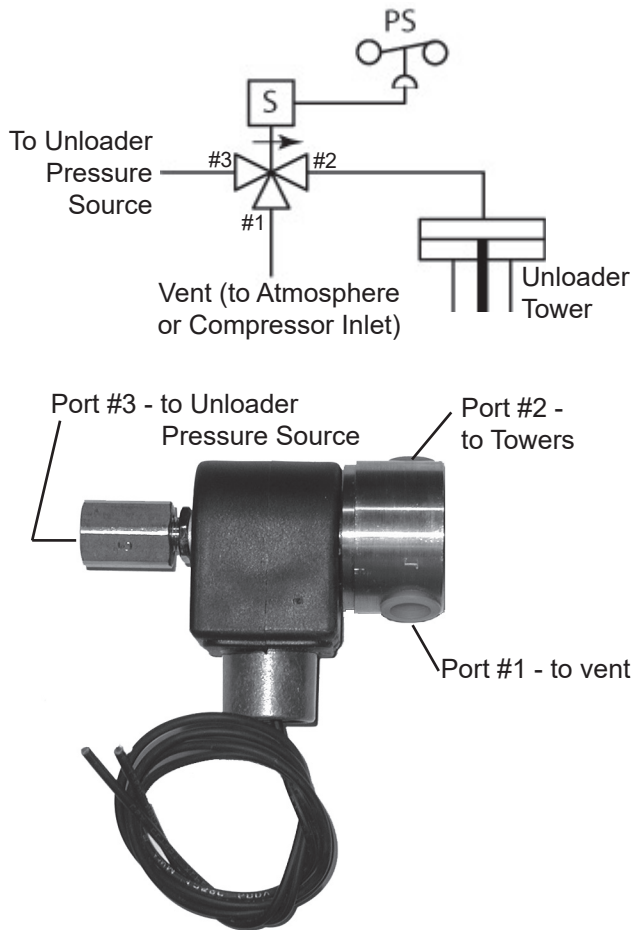

Figure 6: Three Way Unloader Solenoid Valve Plumbing
– Provided on air boosters and gas compressors with suction valve unloading (see Figure 6). The three way unloader control solenoid receives an electrical signal from a pressure switch to engage or release (load or unload the compressor). The valve is designed so that if electrical power is lost or the solenoid fails, the valve will unload the compressor. There are three gas ports on the unloader valve, as well as an electrical connection. Port # 1 is the vent port. Port # 2 is connected to the Unloader Towers or 3-Way Check Valve. Port #3 is connected to the unloader pressure source. If the port configuration is different than that listed above, it will be noted on the Piping and Instrumentation Diagram.